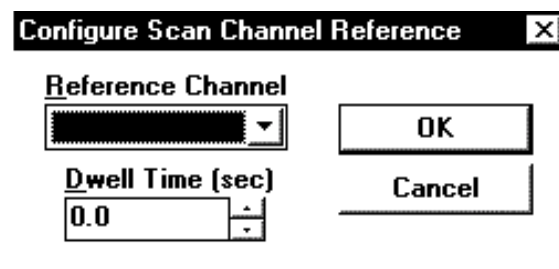

Figure 5-6 CONFIGURE SCAN CHANNEL REFERENCE DIALOG BOX
- **ADD:** Adds a reference channel or channels to the selected scan channel. Using the **Configure Scan Channel Reference** Dialog Box. The **Configure Scan Channel Reference** dialog box is shown in Figure 5-6.